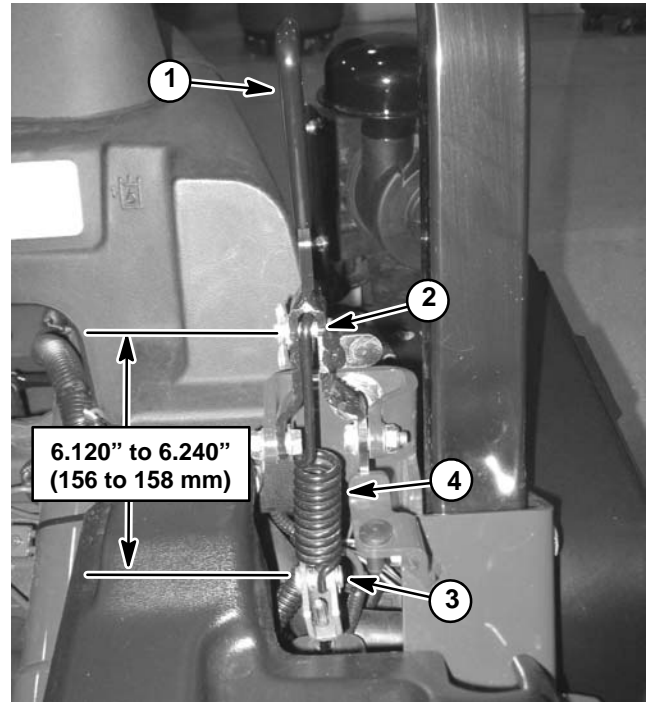

Figure 4
2. With parking brake engaged, measure the distance between the centers of the two (2) pins that secure the brake spring to the brake lever and the equalizer bracket. This distance should be from **6.120" to 6.240" (156 to 158 mm)** (Fig. 4).